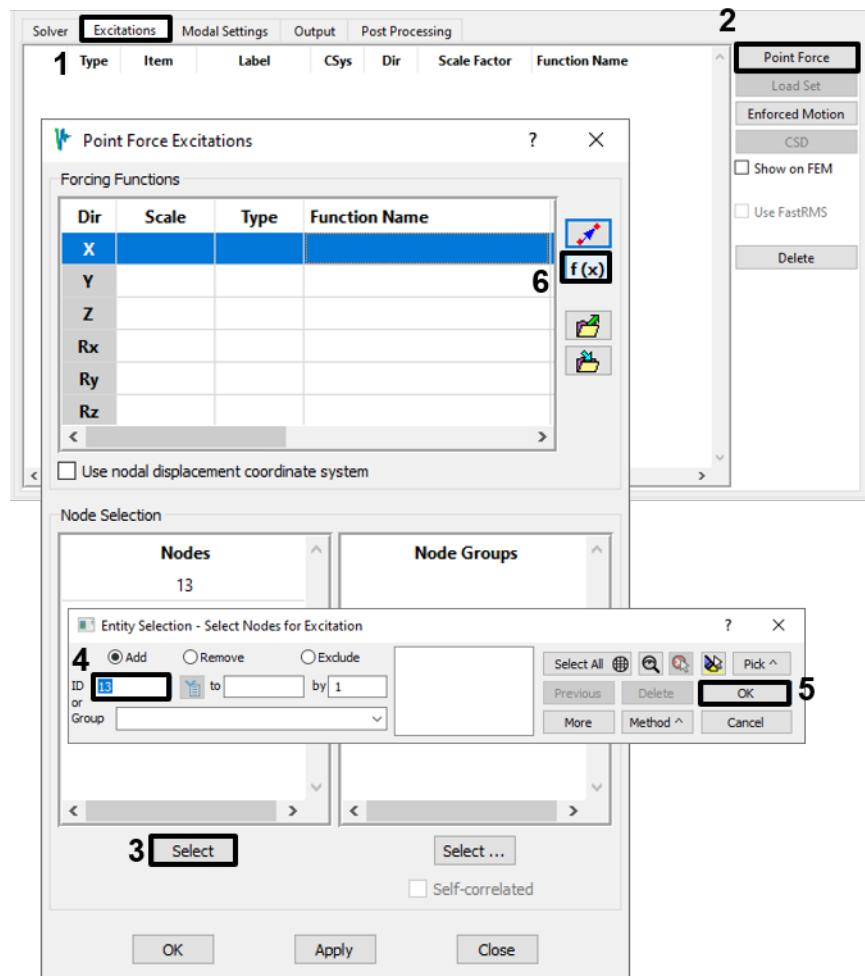

Figure 4-21. Define a point force excitation on node 13 in the X-direction.
- b. On the *Point Force Excitations* dialog, first select node 13 to receive the applied force. Next, select the X-direction in the *Forcing Functions* table, then click the button to bring up the Function Manager (Figure 4-21).